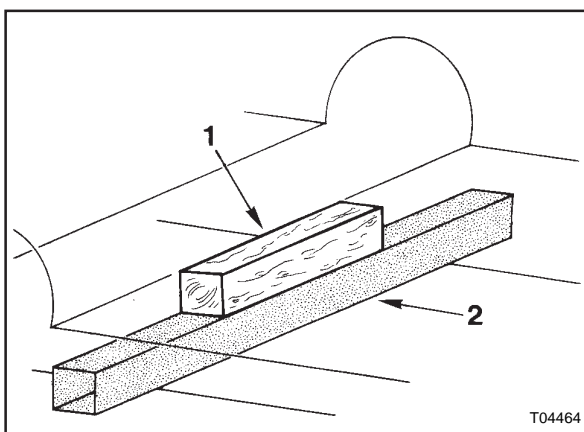
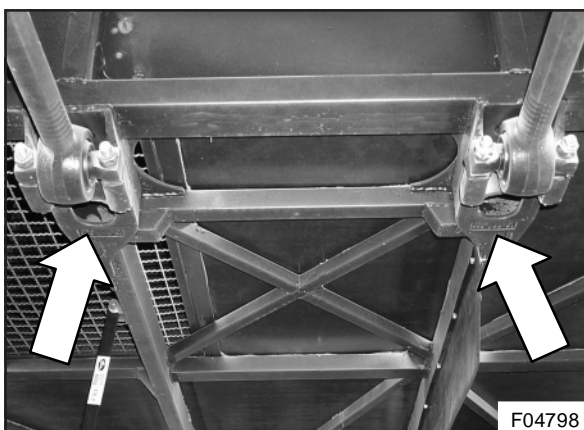

Figure 4 : Chassis frame support
Figure 5 : Foremost C-beam track rod anchor points
8. Support the chassis frame with a steel box girder and a wooden block (see Figure 4) at the foremost C-beam track rod anchor points (see Figure 5).